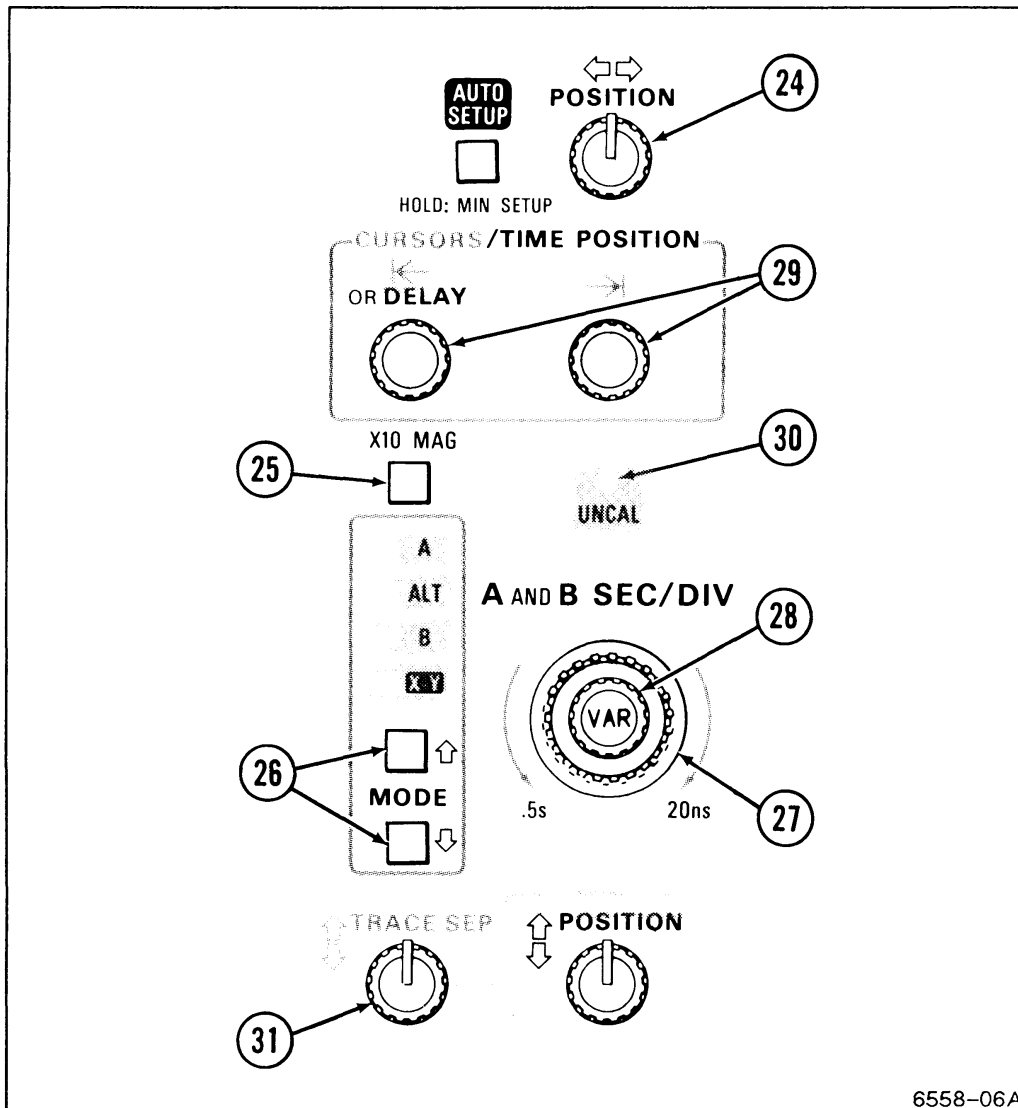

Figure 2-4. Horizontal controls and indicators.
Refer to Figure 2-4 for location of items 24 through 31.
- ②4 **POSITION Control**—Adjusts the horizontal position of the waveform displays on the crt.
- ②5 **X10 MAG Switch**—Magnifies the A and B sweeps by a factor of 10 and extends the fastest sweep speed to 2 ns per division. The center portion of an unmagnified sweep display will be within 0.5 division of the center of a magnified sweep display. No action occurs in X-Y mode.